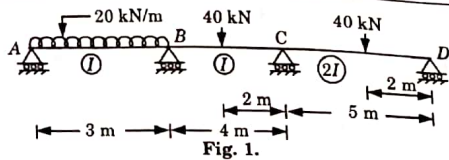

Fig. 1.
- a. Find the moments at the supports for the continuous beam shown in Fig. 1. Draw also BM diagram for the beam. Use slope deflection method.